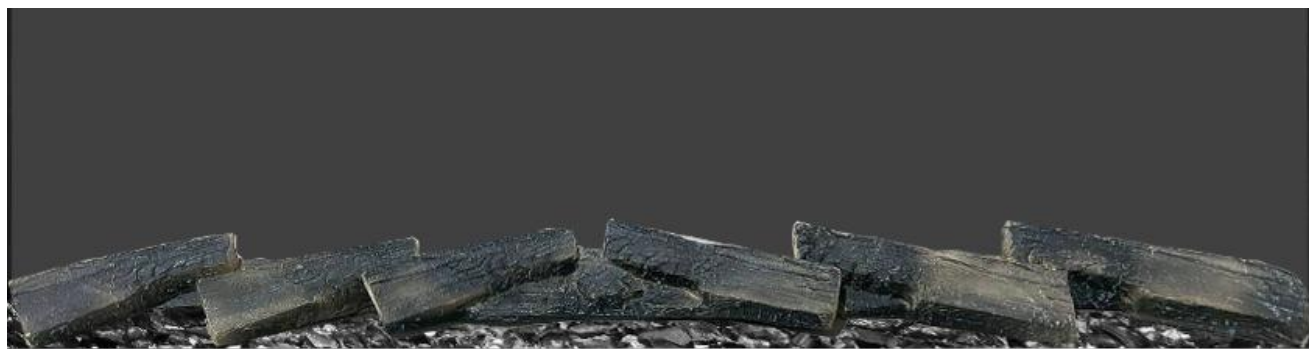

Fig.4-2 (FOR EFS1300)
- C. Carefully place the smoky crystal and vermiculite fuels into the bottom tray around the log-set as illustrated. Apply an even layer from side to side. **Fig. 4-2**
Carefully place the smoky crystal and vermiculite fuels into gaps around the log-set **Fig.4-2**